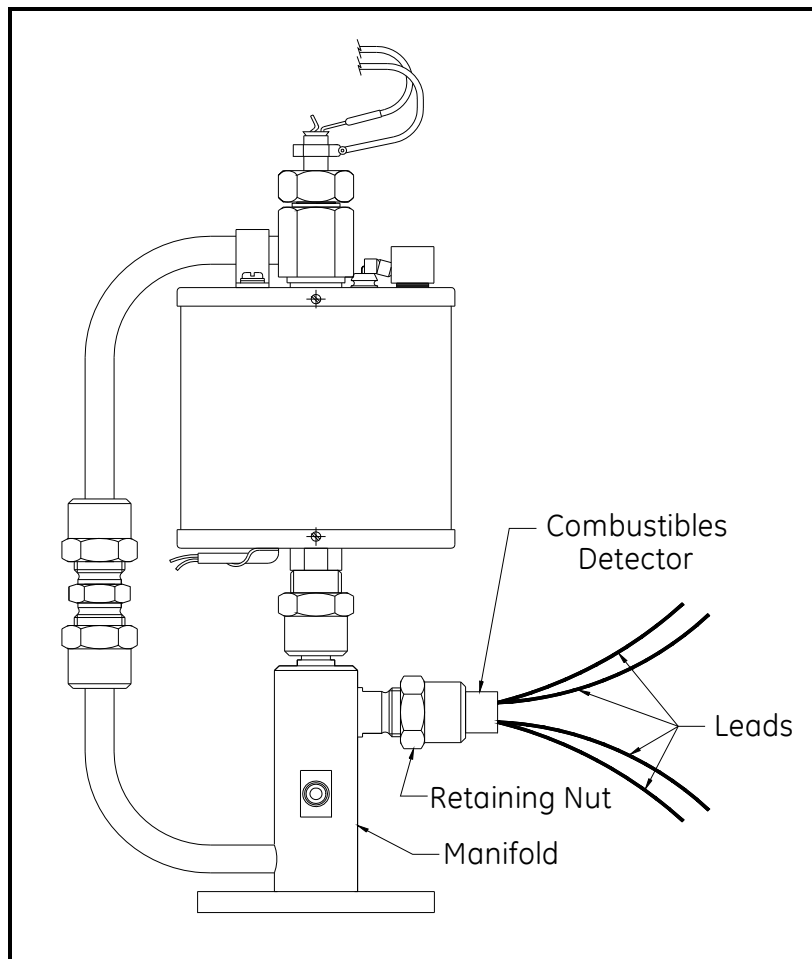

Figure 35: Combustibles Detector Location
3. Use a wrench to turn the retaining nut counterclockwise, as viewed from the end of the combustibles detector, until it comes loose from its fitting (see Figure 35).